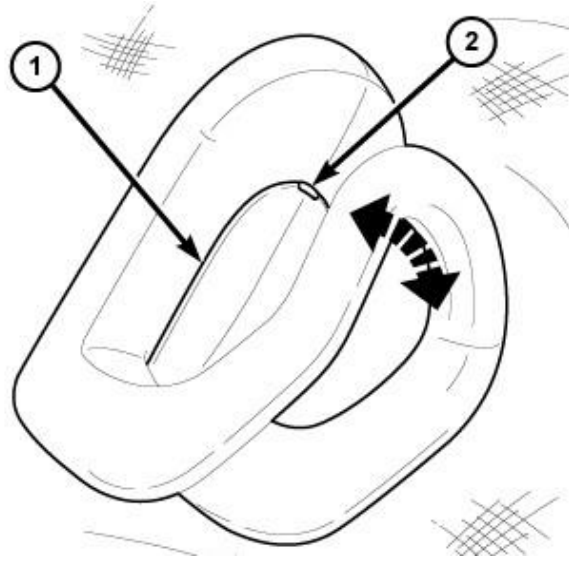

Figure 21 – Coat Hook
- Using a small flat bladed tool, open the coat hook screw cover (2) then remove the screw and coat hook (Figure 21).
50. Position the coat hooks (5) onto the headliner and install the screws tightening securely into the mounting clips then close the screw cap fully (Figure 21).